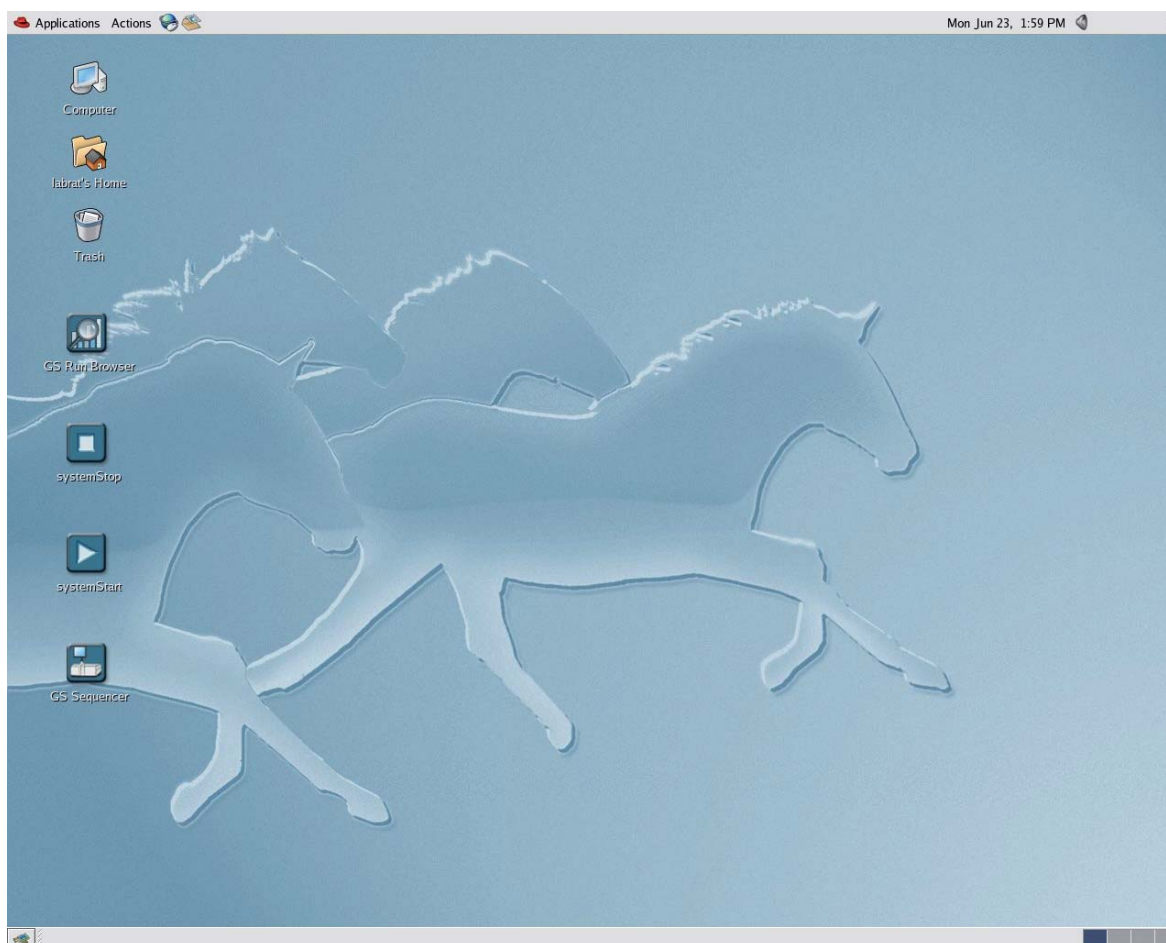

Figure 1–4: The Genome Sequencer FLX Instrument main screen, showing the Operator applications launch icons
Individual functions of the Genome Sequencer FLX Instrument control software are packaged into distinct applications, each invoked when the Operator double-clicks the appropriate icon on the computer desktop (Figure 1–4).
- ▶ For diagrams, see Figure 1–2 and section 3.1.